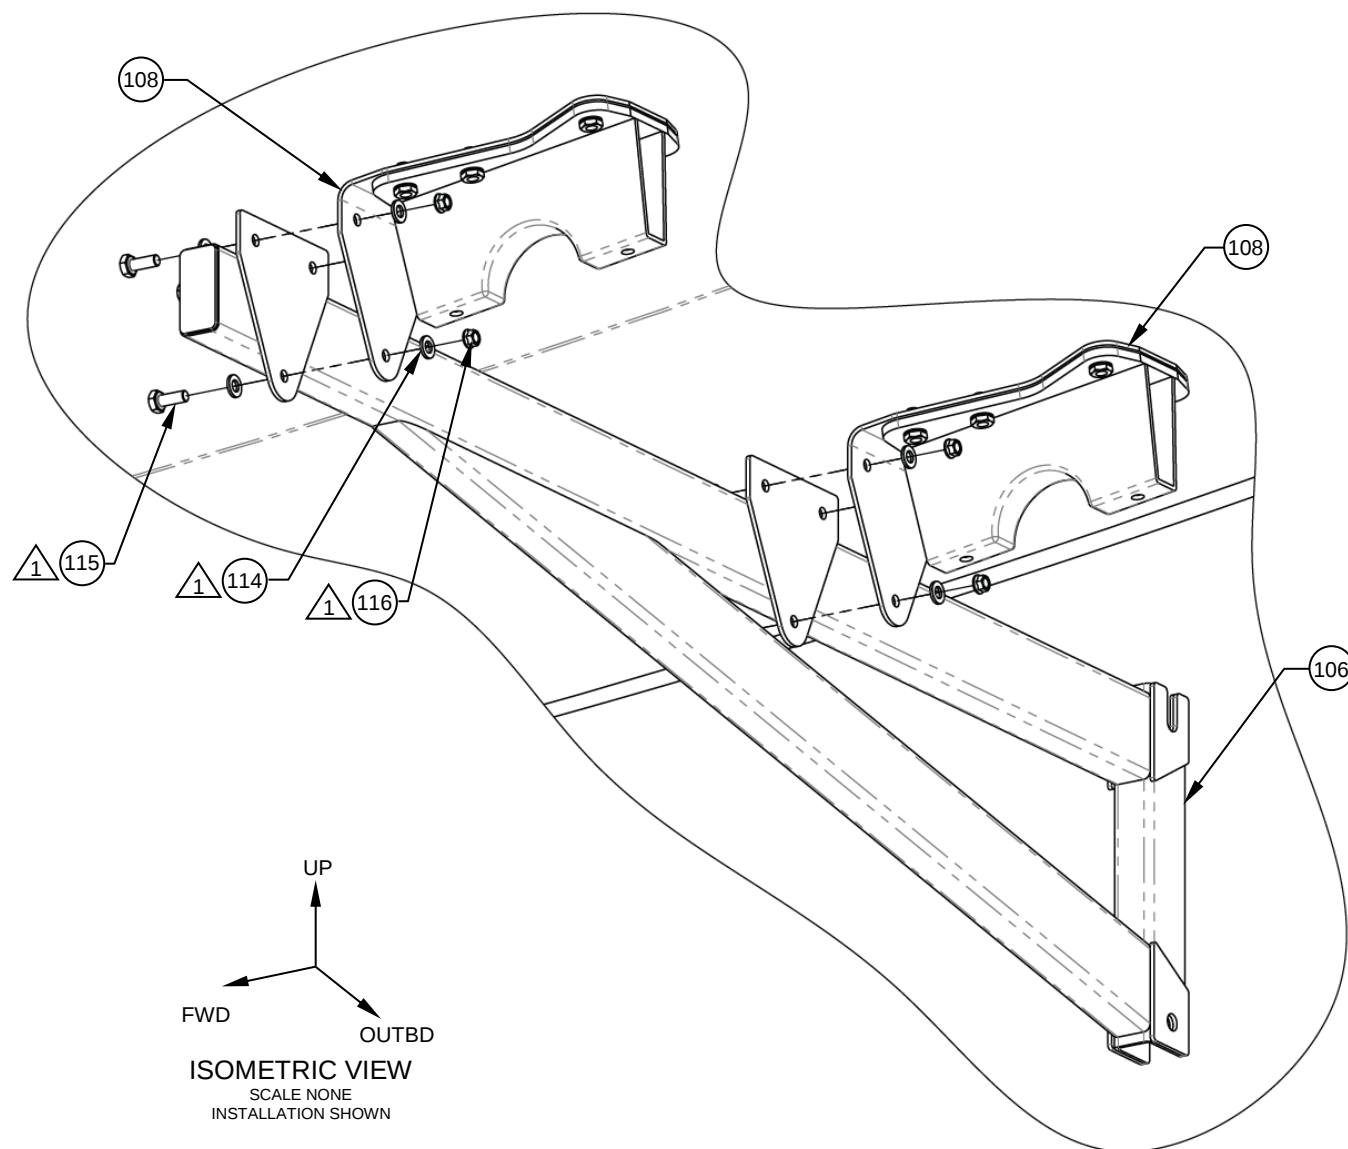

Figure 4
7. Install the AFT Attachment Arm Assy, (Item 106) to the 2X AFT Attachment Bracket, (Item 108), using the provided 6x Bolt, Machine, (Item 115), 6x Nut, Self-Locking, (Item 116), and 12x Washer, Flat, (Item 114), as shown in Figure 4.